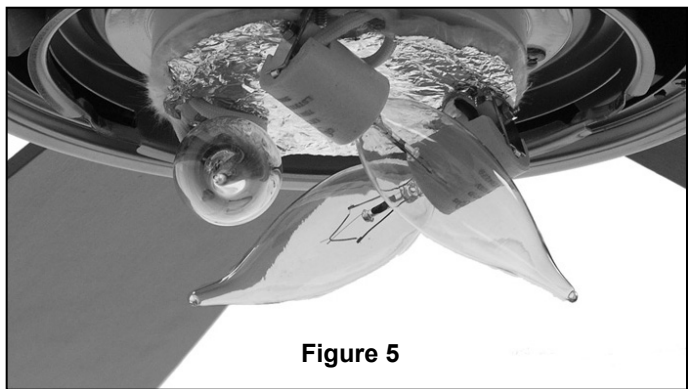

Figure 5
6. Loosen the two setscrews in the Downrod Support. Align the Clevis Pin holes in the Downrod with the holes in the Downrod Support. Install the Clevis Pin and secure with the Hairpin Clip. (Figure 5) Be sure to push the straight leg of the hairpin clip through the hole near the end of the clevis pin until the curved portion of the hairpin clip snaps around the clevis pin. The hairpin clip must be properly installed to prevent the clevis pin from working loose. Pull on the Downrod to make sure the clevis pin is properly installed.
9. While pulling up on the hanger ball, securely tighten the two setscrews with nuts in the downrod support. (Figure 5)
5. Install three Candelabra Bulbs (not included - 40 watts max) in each of the sockets on the Downlight Socket Plate Assembly. (Figure 5)